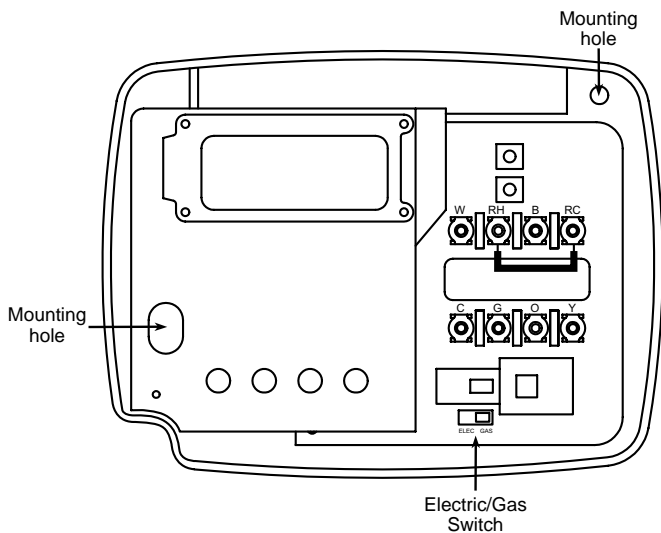

Figure 1. Thermostat base
This thermostat is configured from the factory to operate a heat/cool, fossil fuel (gas, oil, etc.), forced air system. It is configured correctly for any system that DOES NOT require the thermostat to energize the fan on a call for heat. If your system is an electric or heat-pump system that REQUIRES the thermostat to turn on the fan on a call for heat, locate the **GAS/ELECTRIC** switch (see fig. 1) and switch it to the **ELECTRIC** position. This will allow the thermostat to energize the fan immediately on a call for heat. If you are unsure if the heating/cooling system requires the thermostat to control the fan, contact a qualified heating and air conditioning service person.
5. Fasten base loosely to wall, as shown in fig. 1, using two mounting screws. Place a level against bottom of base, adjust until level, and then tighten screws. (Leveling is for appearance only and will not affect thermostat operation.) If you are using existing mounting holes, or if holes drilled are too large and do not allow you to tighten base snugly, use plastic screw anchors to secure subbase.